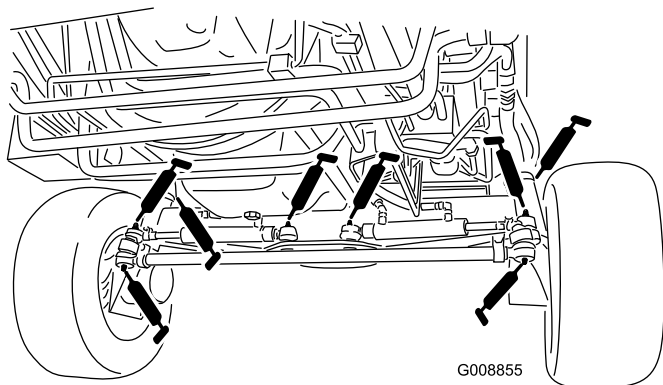

Figure 51
- Steering cylinder ball joints (4) (Figure 51)
- Tie rod ball joints (2) (Figure 51)
- King pin bushings (2) (Figure 51)